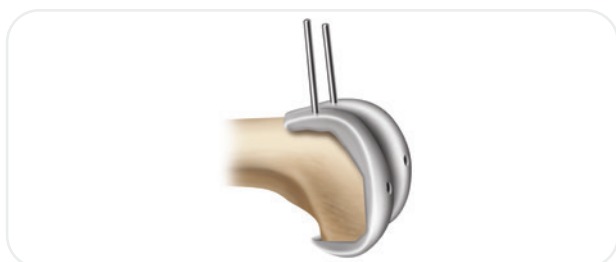

Figure 41
3. Pin the femoral trial through the anterior flange (**Figure 41**). Loosen the lock knob of the Femoral Trial Impactor and remove anteriorly, leaving the trial in place.